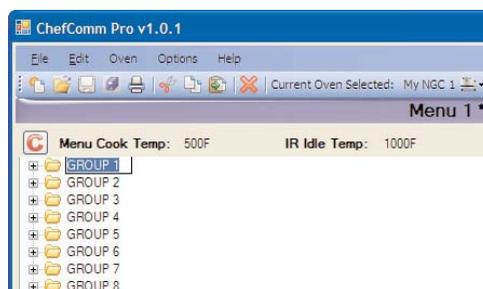

Figure 17: Rename a Food Group
3. Type the new name and press Enter (Figure 17).